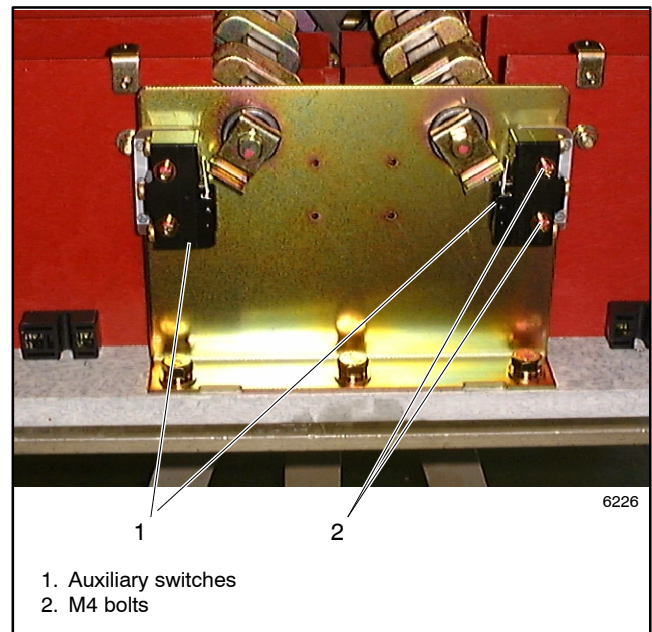

Figure 8-37 Auxiliary Switches, 600 Amp Models
2. Loosen the M4 bolts and replace the auxiliary switches. See Figure 8-37.